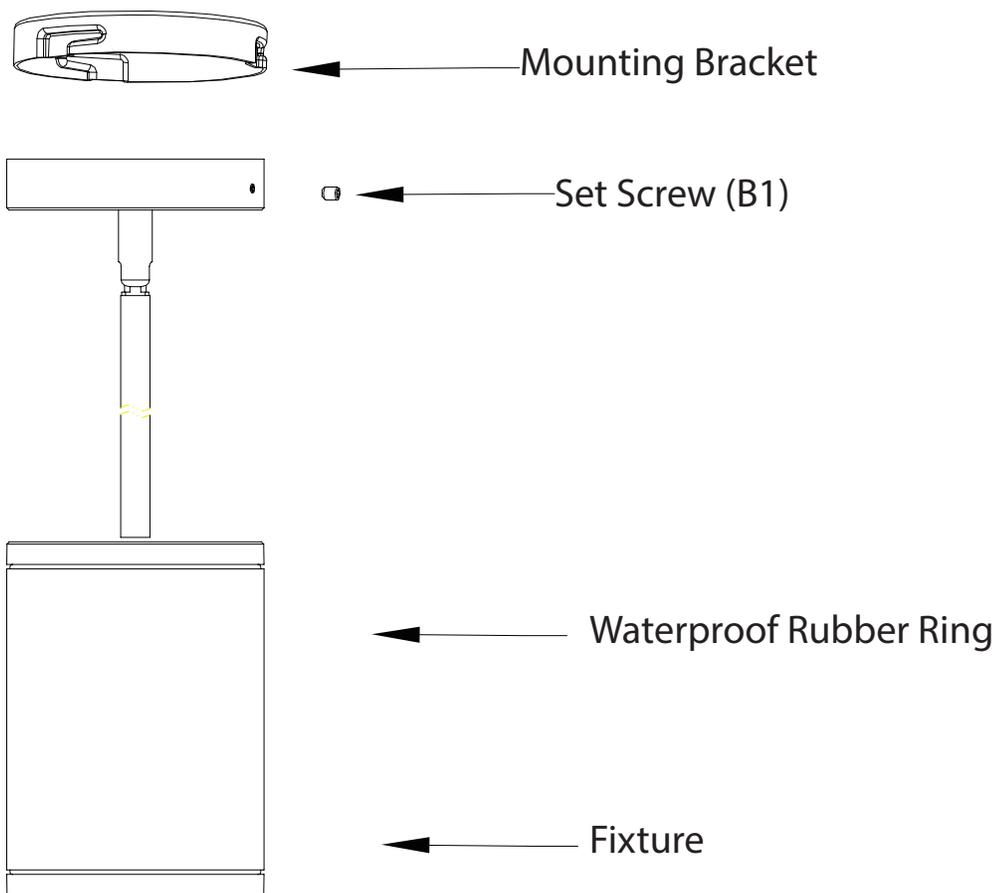

Fig.1
4. Secure the Mounting Bracket to the junction box by using Mounting Bracket Screws. Fig.1